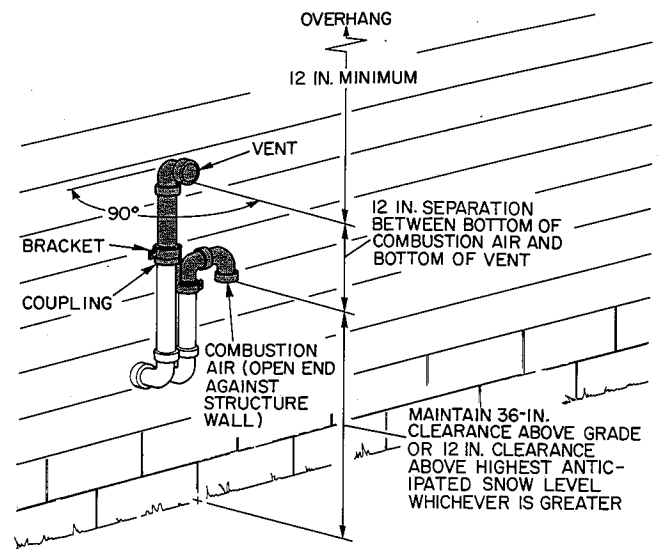
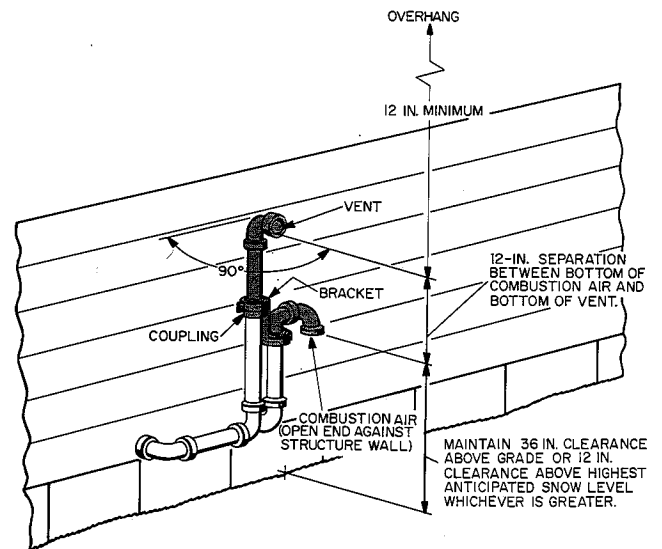

Fig. 4—Sidewall Vent Termination Below Snow Level or Too Close to Grade (Preferred)
Fig. 5—Sidewall Vent Termination Below Snow Level or Too Close to Grade (Option)
Install kit as follows when combustion-air and vent pipes exit through sidewall below snow level or too close to grade. (Fig. 4 and 5).
NOTE: The arrangement in Fig. 4 is preferred. The arrangement shown in Fig. 5 is an option for the vent pipe only.
4. Loosely install U-fitting and bracket as shown in Fig. 4. Position U-fitting so open end is against structure wall.
5. Loosely install vent-pipe assembly in coupling as shown in Fig. 4 or 5.
6. Check required dimensions as shown in Fig. 4 or 5.
8. Install bracket as shown in Fig. 4 or 5.